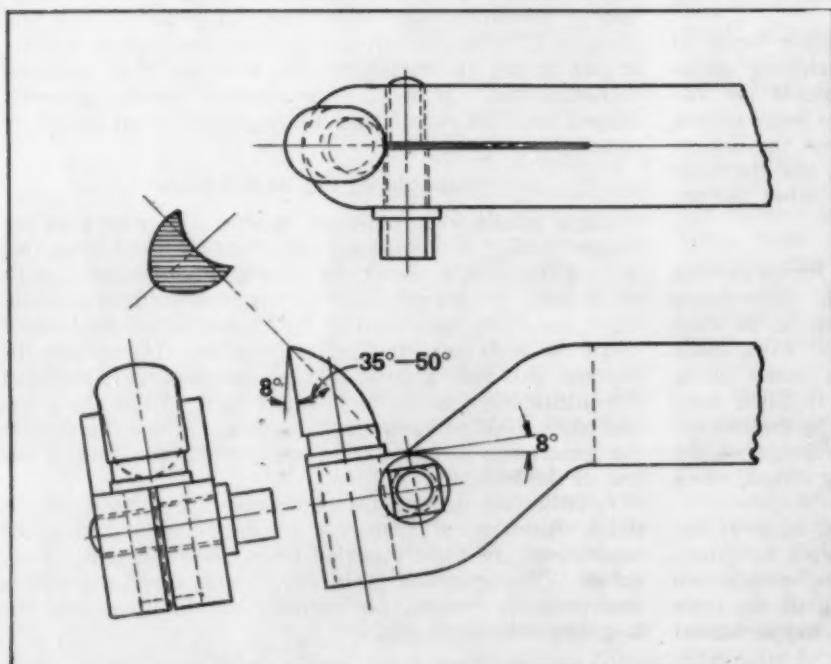
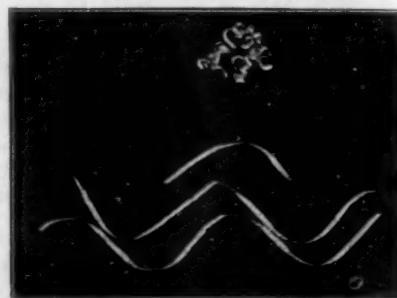
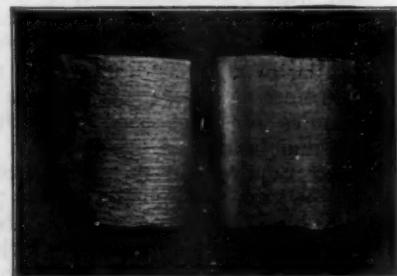

Fig. 2.—Good Type of Lathe Tool.
Fig. 3.—Continuous Chips
Fig. 4.—A—Finish Produced by Brass Tool.
Fig. 2—Mounted on a turntable in the large power-ventilated spray booth, big apparatus is sprayed by Thomas Cassidy. The apparatus is later dried in the oven directly behind the booth.
Fig. 3—The japan room. Left to right: drying rack, small spray booth, baking oven (into which Charles Stone is placing equipment he has just sprayed), and crystallizing oven.
Fig. 4—Floor Plan of the plating room. The cleansing baths are: A—clean water; B—soap solution; C—preliminary wash water; D—alkaline electrolytic cleaner; E—bright acid dip; F and G—hydrochloric acid pickles for (F) steels and (G) brasses; I—cyanide dip; H and J—clean running water.
A lathe tool of the type shown in Fig. 2, possesses a number of advantages not usually obtainable with the customary type of tool bit. This tool is readily resharpened by holding its shank in the chuck of a tool grinder or an engine lathe and grinding off the outside diameter until the desired keen edge is obtained. Such grinding should be followed by stoning as previously indicated. By rotating the tool bit in its holder, the angles of the cutting edge and side rake can be varied considerably to suit the needs of the work being done. Tools of this type are now obtainable in various sizes on the open market. Many of these tools however, differ from the one shown in
Tools similar to the one indicated in Fig. 2 can be ground from ordinary high speed steel, tool bit stock, but the amount of grinding required materially increases the cost of preparing the tool. When so prepared, it is also somewhat more difficult to maintain the proper cutting angles during re-sharpening than it is with the type just recommended. It is more economical to use properly shaped tool bits rather than those ground from square or rectangular stock.
Tools of the form indicated in Fig. 2 may be used for rough turning and finishing cuts, but when the same tool is used for both, it should be re-stoned before making the finish cut. In general, tools of this type produce continuous chips which, as shown in Fig. 3, are but slightly curled when the tools are functioning properly. Decreasing the top and side rake angles, that is, increasing the angle of the cutting edge of the tool, causes more curl in the chips, and tends to break them up. At the same time it increases the generation of heat, and thereby tends to decrease the life of the tool.
A lathe tool ground for machining brass produced the finish shown on specimen A, in Fig. 4, and during the machining, the tightly curled chips shown in Fig. 3 resulted. The specimen B, in Fig. 4, was machined with a tool properly ground for turning aluminum, giving the long chips shown in Fig. 3.
The reader will readily appreciate that tools of the form shown in Fig. 2, when used in a holder of insufficient stiffness, will tend to "root" into the work, especially when making heavy cuts. Experience has shown, however, that when these tools are properly used they actually stand up better and remove more metal than the more rugged appearing tools.
By making suitable modifications, the form of tool shown in Fig. 2, can be adapted to boring operations and for use in shaper or planer work. In these cases, however, emphasis must be placed upon the stiffness requirement for the tool holder. Other tools such as facing, parting, circular, forming and skiving should embody, as far as possible, the same requirements that have been indicated for the lathe tool shown in Fig. 2.